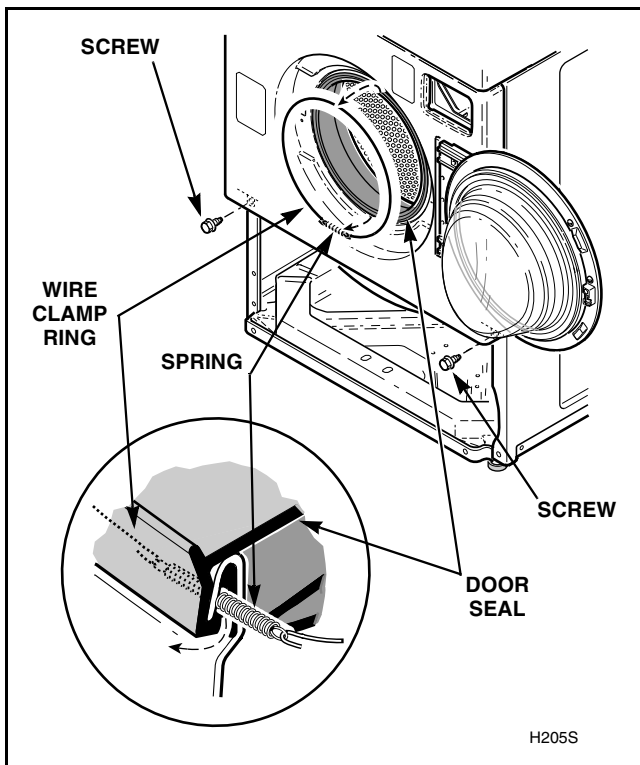

Figure 14
- g. Open loading door. Carefully remove wire clamp ring from groove with small flat screwdriver. Spring is in 6 o'clock position. Refer to *Figure 14*.
- f. Open loading door. Carefully remove wire clamp ring from groove with small flat screwdriver. Spring is in 6 o'clock position. Refer to Figure 14.
- Open loading door. Carefully remove wire clamp ring from groove with small flat screwdriver. Spring is in 6 o'clock position. Refer to *Figure 14*.